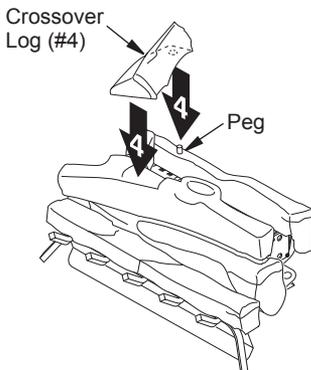

Figure 31 - Installing Crossover Log (#4)
- Place the crossover log on the rear and middle logs. Make sure peg on rear log is in the hole in bottom of crossover log. The crossover log should fit in cutout of middle log (see Figure 31).